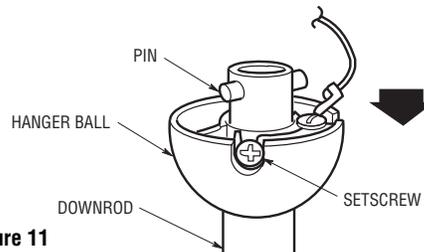

Figure 11
- 19. Obtain the hanger ball/downrod assembly and remove the hanger ball by loosening the setscrew in the hanger ball until the ball falls freely down the downrod (Figure 11). Remove the pin from the downrod, then remove the hanger ball. Retain the pin and hanger ball for reinstallation in Step 27. Discard the 12" downrod if using the 6" downrod.